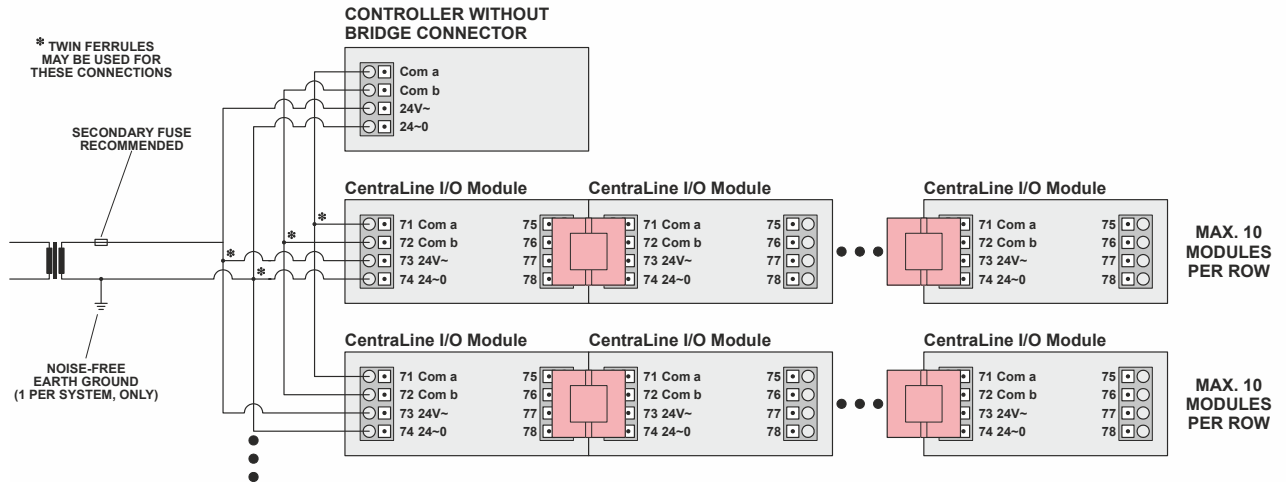

Fig. 22 Wiring controllers not supporting bridge connectors (for fusing, see section "Fusing Specifications" on page 9)
► Connect the controller and Centraline I/O modules which do not support bridge connectors using wire. See also Fig. 22.